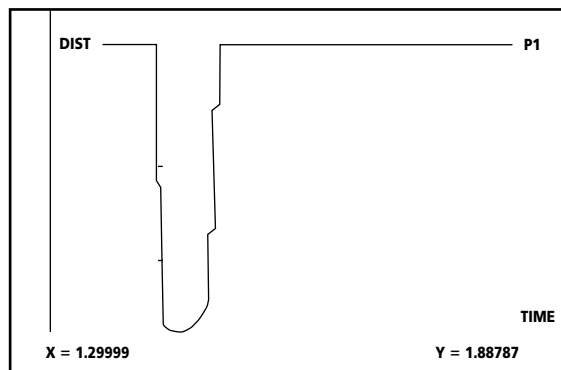

Figure 2
- For 5 seconds after the motion detector has been turned on, the calculator will collect data. When data collection has finished, press **ENTER** to display a graph of distance vs. time. The graph may look like that shown in Figure 2. The horizontal part of the line indicates that the motion detector is bouncing sound waves off the wall, a stationary object. The depression in the line indicates that the sound waves have bounced off something closer to the detector—the runner as he or she ran across the beam.